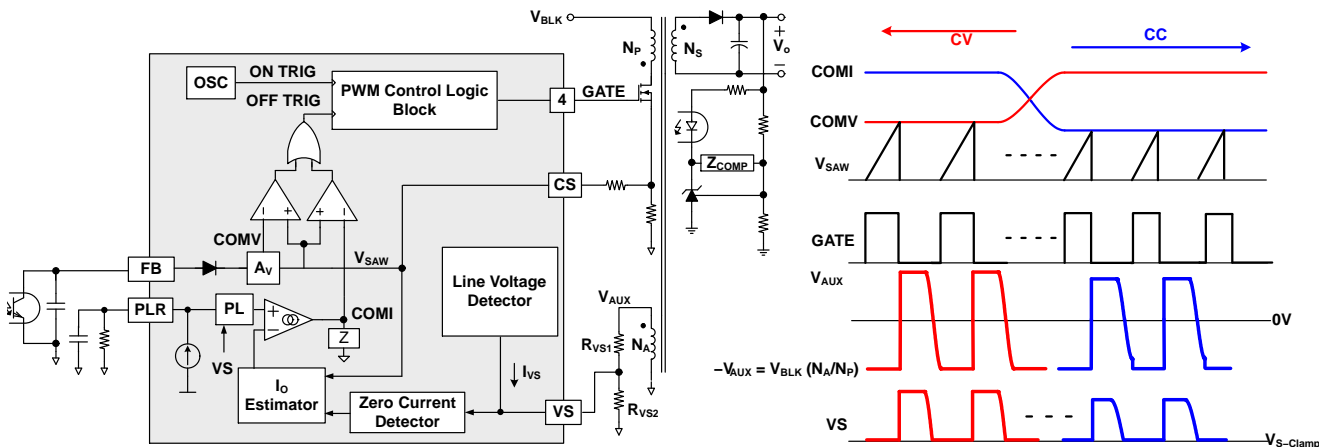
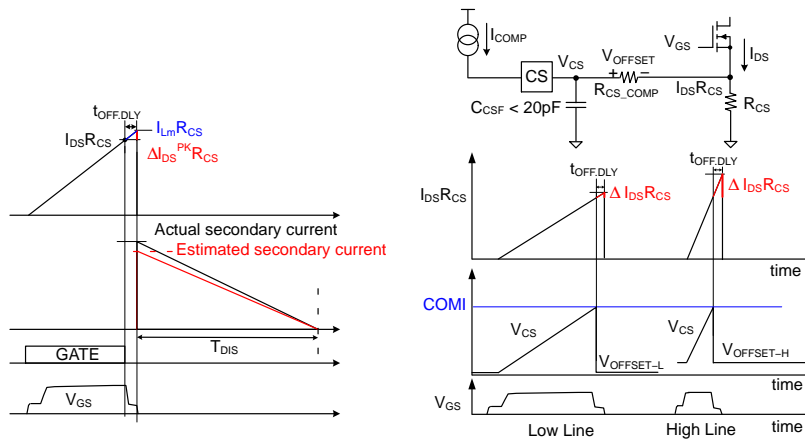

Figure 27. Simplified PWM Control Circuit and PWM Operation for CV/CC Regulation
Figure 29. Effect of MOSFET Turn-off Delay and Line Voltage Compensation
Figure 27 shows a simplified CV / CC PWM control circuit of the FAN604P. The Constant Voltage (CV) regulation is implemented in the same manner as the conventional isolated power supply, where the output voltage is sensed using a voltage divider and compared with the internal reference of the shunt regulator to generate a compensation signal. The compensation signal is transferred to the primary side through an opto-coupler and scaled down by attenuator A_V to generate a COMV signal. This COMV signal is applied to the PWM comparator to determine the duty cycle.
These two control signals, COMV and COMI, are compared with an internal sawtooth waveform (V_{SAW}) by two PWM comparators to determine the duty cycle. Figure 27 illustrates the outputs of two comparators, combined with an OR gate, to determine the MOSFET turn-off instant. Either of COMV or COMI, the lower signal determines the duty cycle. During CV regulation, COMV determines the duty cycle while COMI is saturated to HIGH level. During CC regulation, COMI determines the duty cycle while COMV is saturated to HIGH level.
The output current estimation is also affected by the turn-off delay of the MOSFET as illustrated in Figure 29. The actual MOSFET’s turn-off time is delayed due to the MOSFET gate charge and gate driver’s capability, resulting in peak current detection error as
Where Lm is the transformer’s primary side magnetizing inductance. Since the output current error is proportional to the line voltage, the FAN604P incorporates line voltage compensation to improve output current estimation accuracy. Line information is obtained through the line voltage detector as shown in Figure 27. ICOMP is an internal current source, which is proportional to line voltage. The line compensation gain is programmed by using CS pin series resistor, RCS_COMP, depending on the MOSFET turn-off delay, tOFF.DLY. ICOMP creates a voltage drop, VOFFSET, across RCS_COMP. This line compensation offset is proportional to the DC link capacitor voltage, VBLK, and turn-off delay, tOFF.DLY. Figure 29 demonstrates the effect of the line compensation.